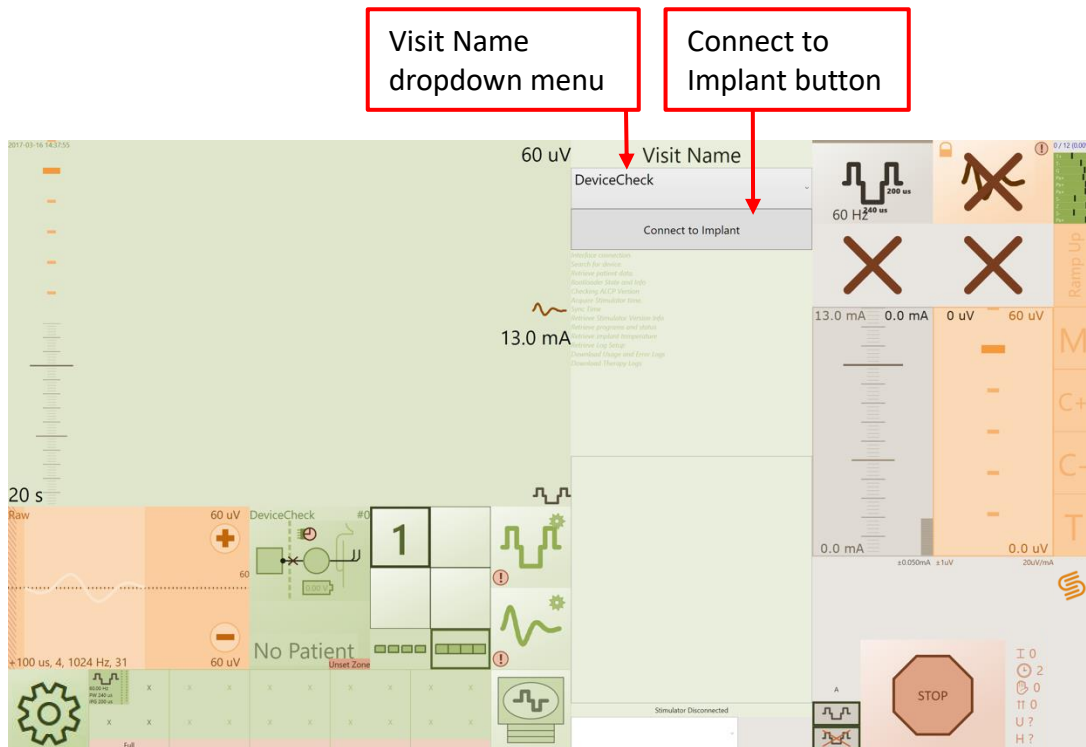

Figure 6.3: Location of the Visit Name dropdown menu and Connect to Implant button.
2. Choose the appropriate Visit Name from the dropdown menu (see Figure 6.3).
3. Touch *Connect to Implant* to search for nearby stimulators (see Figure 6.3).